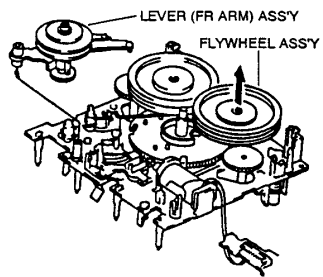

Fig. 3
- Lift up the flywheel by hand and remove the lever (FR arm) assembly (fig. 3).